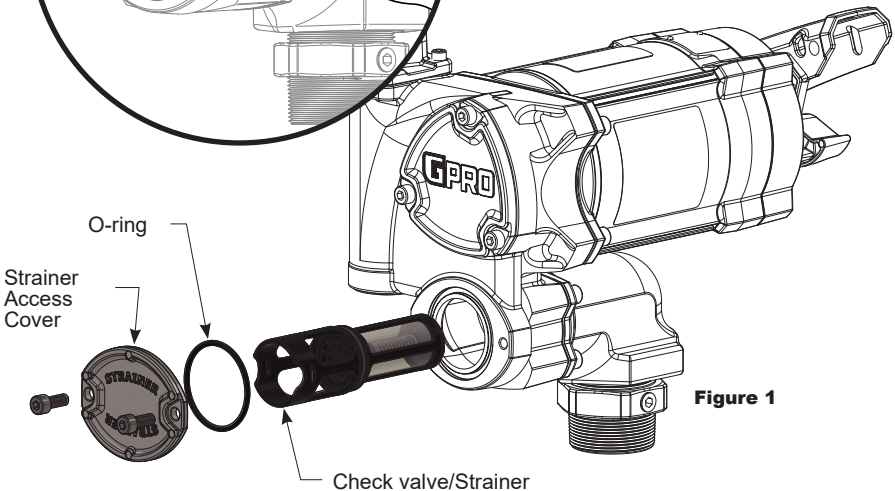

Figure 1
1. Turn the pump off and disconnect from power. Using 6mm hex wrench, remove the strainer access cover, O-ring, and check valve/strainer assembly and inspect for damage or clogs (see Figure 1). Clean the strainer with a soft-bristled brush and solvent. If the strainer is very dirty, compressed air may be used. If damaged, replace the check valve/strainer assembly.